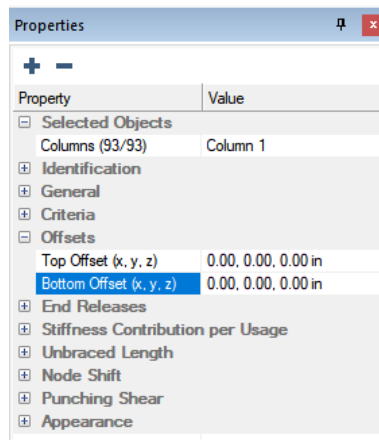

FIGURE 15-3
- Change the top and bottom offsets to **0** in, as shown in **FIGURE 15-3**, to ensure all columns are continuous.